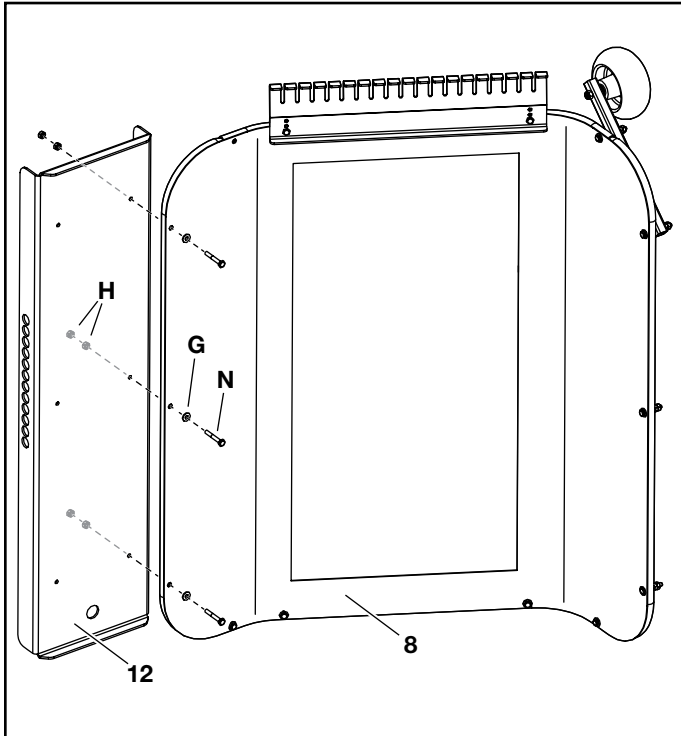

FIGURE 11
STEP 11: (SEE FIGURE 11)
- Stand the left pusher wall assembly (8) upside down as shown.
- Stand the bulkhead (12) upside down with the hole closer to the ground and the flat side against the left side (less angle) of the pusher wall assembly.
- Attach the left pusher wall assembly to the bulkhead (12) using three hex bolts (N), washers (G), and hex nuts (H) and tighten.
- Add a second hex nut (H) to each hex bolt and tighten.